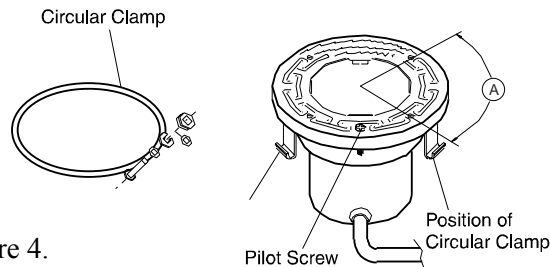

Figure 4.
- a. With the bent ends of the circular unitension clamp pointing down spread the clamp and place it in the "U" recesses of the locking levers. Ensure that the bent ends of the clamp are located between the pair of locking levers as shown in Figure 4, location A. Check to see that the clamp is properly engaged with all of the levers; see Figure 4.